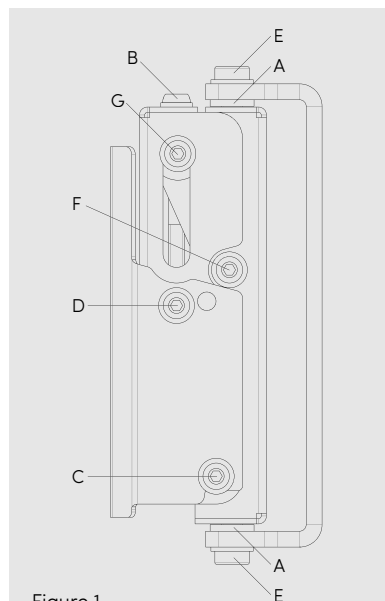

Figure 1
1. Remove both oval-head screws M6 (D) at the mounting plate and loosen the screws (C, F, G) by about three turns. Remove the mounting plate from the wall bracket. **SEE FIGURE 1.**